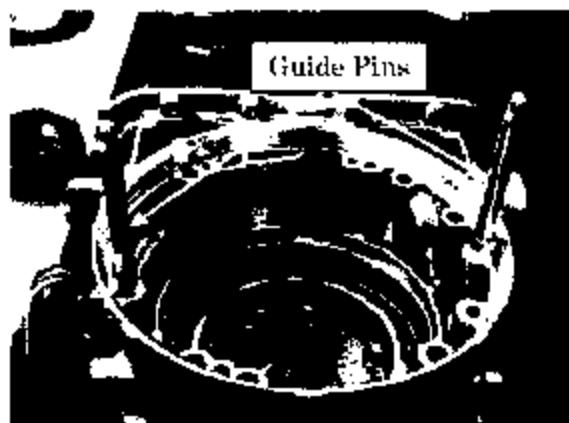

Figure 22
45. Install the two 9 inch guide pins. Special Tool P/N J-38588 (see figure 22).
59. Remove the two 9 inch guide pins (*see figure 22*).